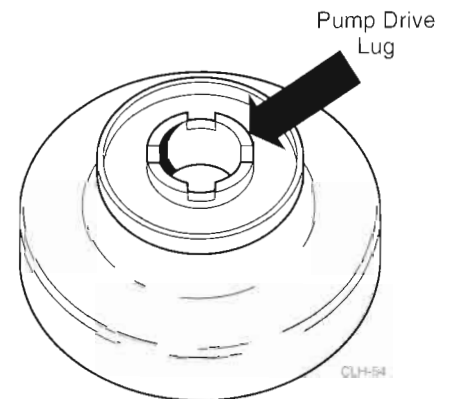

Figure 6.19 Oil Pump Drive Lugs (except 757)
■ (Except 757) Inspect oil pump drive gear lugs for signs of wear or damage, and also verify drive lug alignment with the matching lugs on the oil pump drive gear (Figure 6.19).